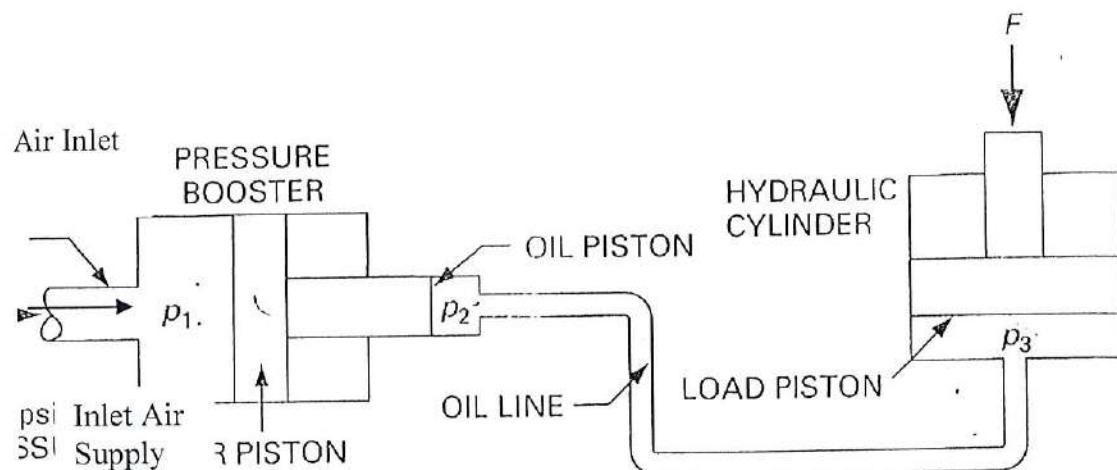

Figure 2/ Rajah 2
- c. For the pressure booster of **figure 2** below, the following data are given: